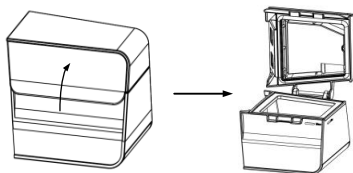

Fig. 13-7
- (1) **Removing the water chamber** according to instructions in 13.1.1.
- (2) **Emptying the water chamber:** Open the cap, as shown in Fig. 13-7, and pour any remaining water out of the water chamber.